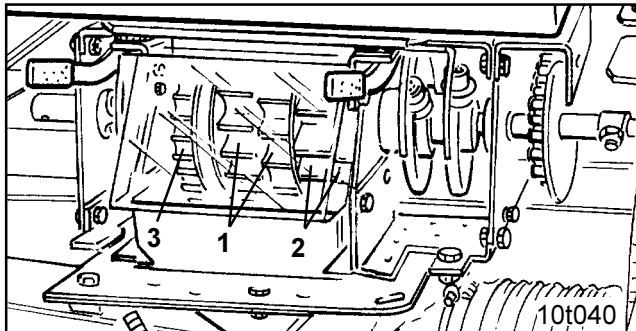

Fig. 15.1
- one white coloured main metering wheel (Fig. 15.1/1)
- one orange coloured main metering wheel (Fig. 15.1/2)
- one red/black coloured fine seed metering wheel (Fig. 15.1/3).